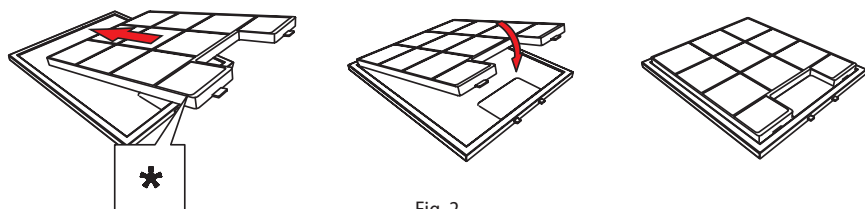

Fig. 2
2. The carbon filters are situated on the metal grease filter, into which you slide the carbon filter into the holes provided (Fig.2).